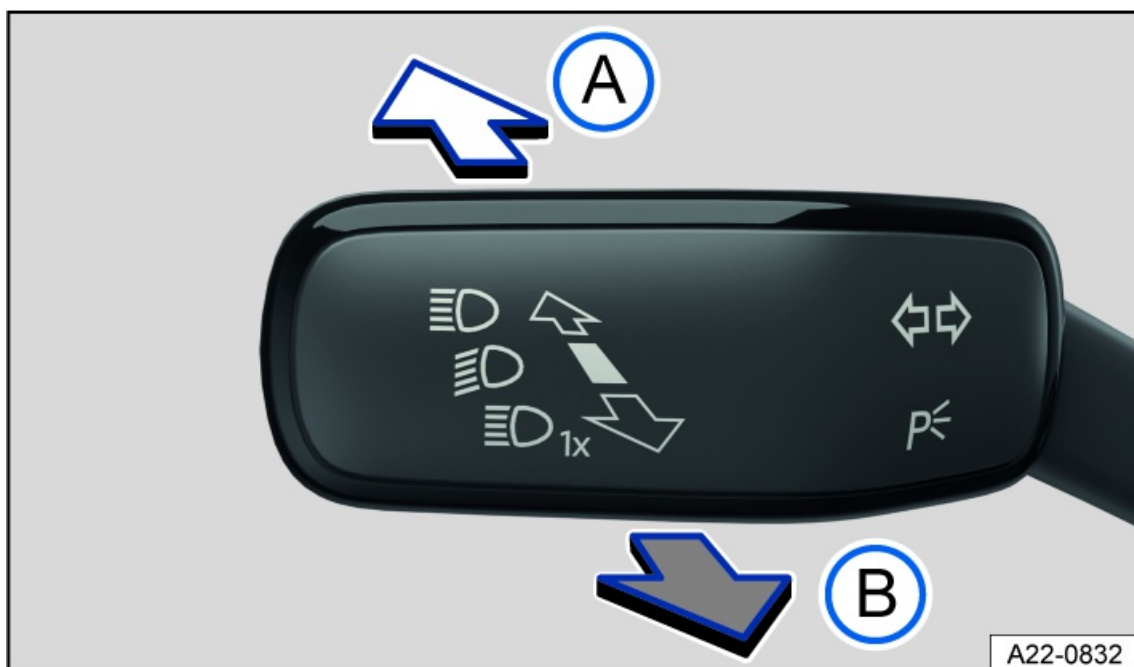

Fig. 81 On the left side of the steering column: turn signal and high beam lever.
3. Press the turn signal and high beam lever forward out of the center position *fig. 81*.
1. Pull the turn signal and high beam lever backward out of the center position *fig. 81*.
1. Pull the turn signal and high beam lever backward out of the center position and hold it *fig. 81*.